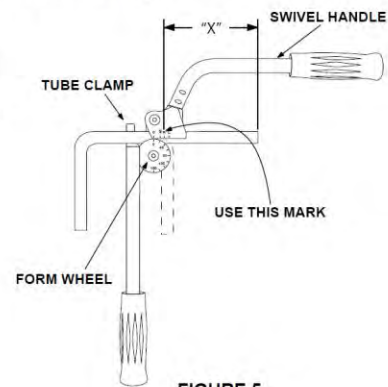

FIGURE 5
3. If the end from which you measured is placed to the right of the tube clamp, set the mark on the tube directly over graduation "R" located on the swivel handle and shown in Fig. 5. With a steady motion, pull form handle around until the "0" mark on swivel handle is directly opposite the 90° mark on form wheel.